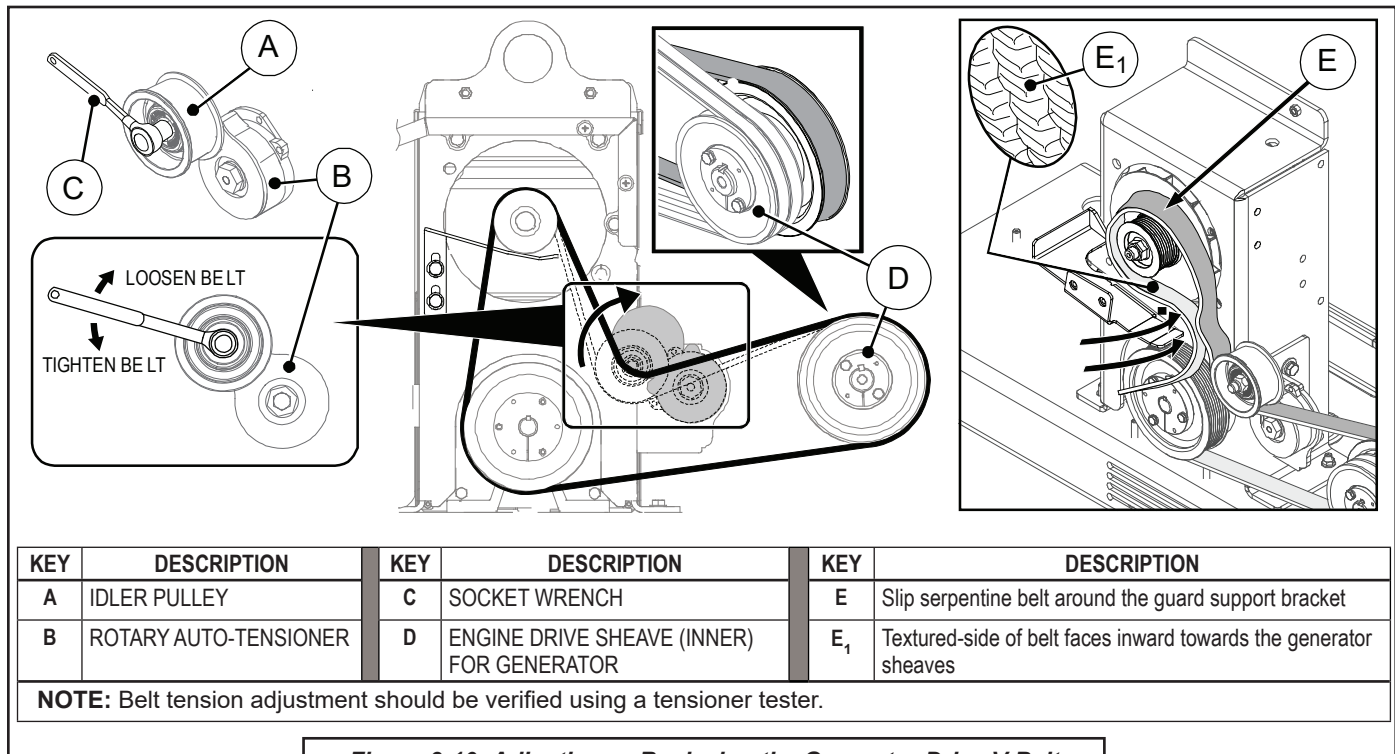

Figure 3-10: Adjusting or Replacing the Generator Drive V-Belt
Refer to **Figure 3-10** to identify the main components of the generator drive system. once the generator drive belt is established onto the engine, generator and idler pulleys, the spring ten-
- Locate the generator auto-tensioner in **Figure 3-10 [B]**. Using a socket wrench, apply pressure downward to loosen the belt tension, as shown.
- Obtain a replacement belt and ensure that the grooved side of the belt runs on the inside to directly contact the drive pulleys, then position and route the new generator serpentine belt as shown in **Figure 3-10**. Note that the auto-tensioner will need to be positioned with the aid of the socket wrench in order to allow